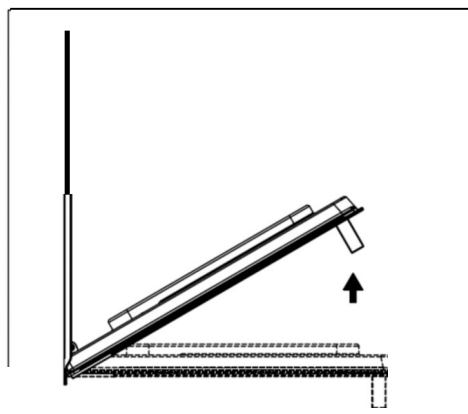

Fig. 2
- > Now, shutting the door slightly, you can lift it out by pulling out the hooks "A" as shown in figure 2.